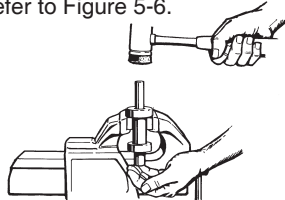

Figure 5-6
2. Place the shaft with either bearing resting on top of the jaws and gently tap on the end of the shaft until the bearing is removed. Refer to Figure 5-6.